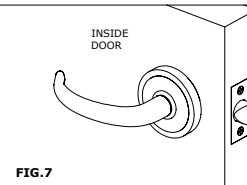

FIG. 7
STEP 6) THE SET PROPERLY INSTALLED SHOULD CORRESPOND TO FIGURE 7.